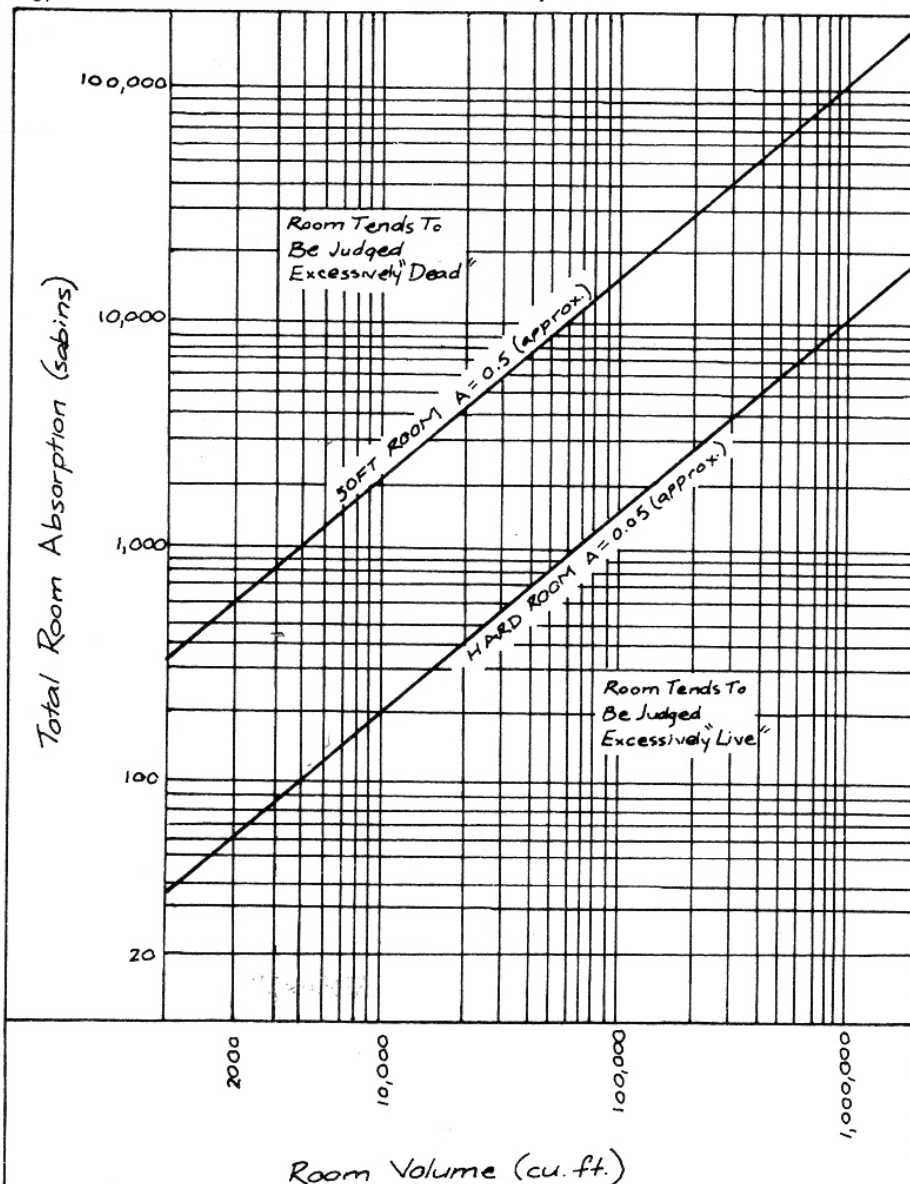

Figure E3.2.1 Room Liveness Graph. Adapted, by permission, from Flynn and Segil, *Architectural Interior Systems*, 66.
2. Evaluate the liveness of your spaces using the room liveness graph [Figure E3.2.1].